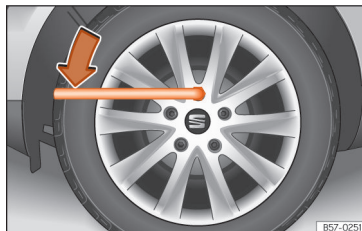

Fig. 240 Tyre change: slacken the wheel bolts.
- Fit the box spanner into the bolt as far as it will go »» Fig. 240.